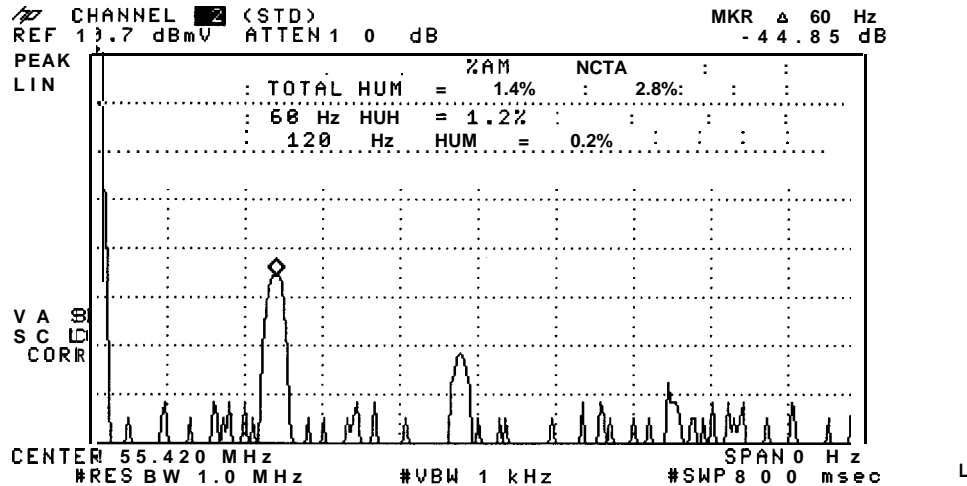

Figure 2-8.
1. Select a channel or tune directly to the carrier to be measured. Make sure that the desired carrier is the highest on screen by adjusting the center frequency and/or span as needed. Turn off modulation (optional), then press More 1 of 3 , HUM MEAS . The results appear as shown in Figure 2-8. The FFT calculated trace is left on the screen and the delta marker is active at the 60 Hz responses.